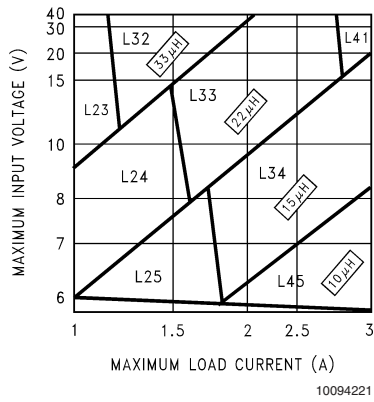
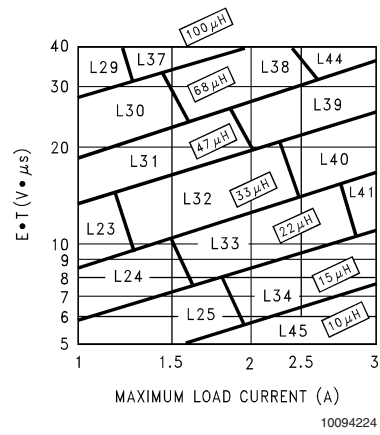

FIGURE 3. LM2670-3.3
FIGURE 6. LM2670-ADJ
**Step 3:** Determine the inductor required by using one of the four nomographs, *Figure 3* through *Figure 6*. Table 1 provides a specific manufacturer and part number for the inductor.
**Step 5:** Determine an input capacitor from Table 4 for fixed output voltage applications. Use Table 2 to find the specific capacitor type. For adjustable output circuits select a capacitor from Table 2 with a sufficient working voltage (WV) rating greater than  $V_{in\ max}$ , and an rms current rating greater than one-half the maximum load current (2 or more capacitors in parallel may be required).
**Step 3:** Use the nomograph for the 3.3V device, *Figure 3*. The intersection of the 16V horizontal line ( $V_{in\ max}$ ) and the 2.5A vertical line ( $I_{load\ max}$ ) indicates that L33, a 22μH inductor, is required.
**Step 3:** To use the nomograph for the adjustable device, *Figure 6*, requires a calculation of the inductor Volt•microsecond constant ( $E \cdot T$  expressed in  $V \cdot \mu s$ ) from the following formula:
Using Figure 6, the intersection of  $27V \cdot \mu s$  horizontally and the  $2A$  vertical line ( $I_{load} \max$ ) indicates that L38, a  $68\mu H$  inductor, should be used.
**Important Note:** When using the adjustable device in low voltage applications (less than  $3V$  output), if the nomograph, Figure 6, selects an inductance of  $22\mu H$  or less, Table 6 does not provide an output capacitor solution. With these conditions the number of output capacitors required for stable operation becomes impractical. It is recommended to use either a  $33\mu H$  or  $47\mu H$  inductor and the output capacitors from Table 6.